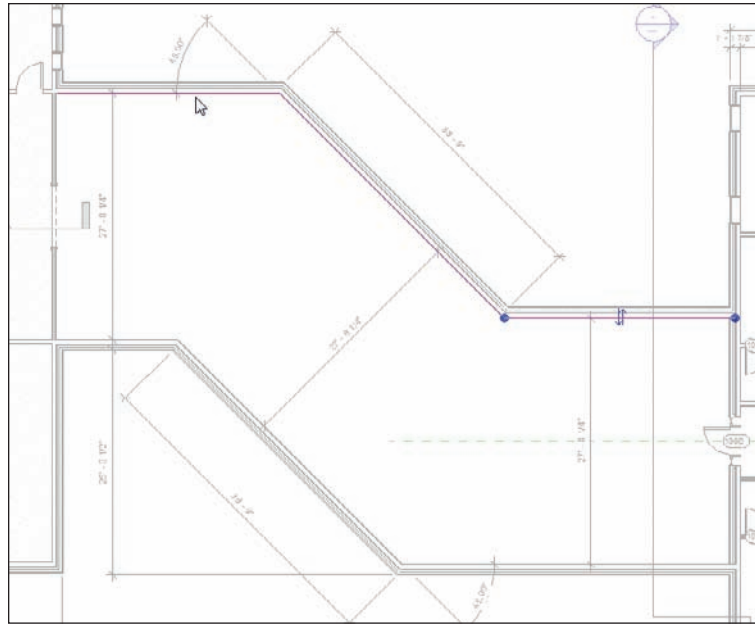

FIGURE 6.12 Picking the north walls of the corridor
1. Zoom into the corridor, as shown in Figure 6.12.
4. Pick the three north walls of the corridor. Remember to keep the magenta line to the inside face (see Figure 6.12).